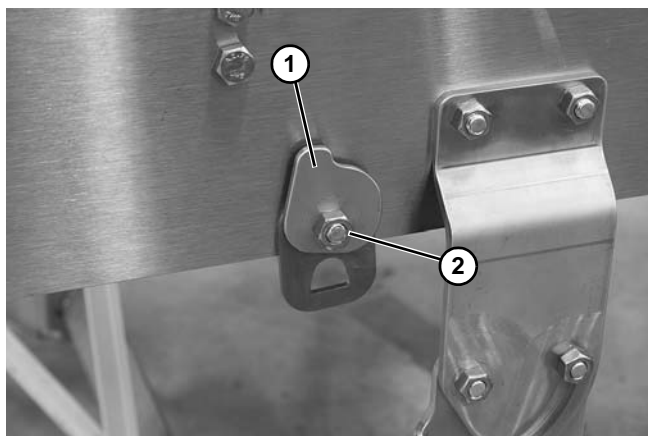

Figure 21
3. Install return clip (Figure 21, item 1) and loosely secure with nut (Figure 21, item 2).